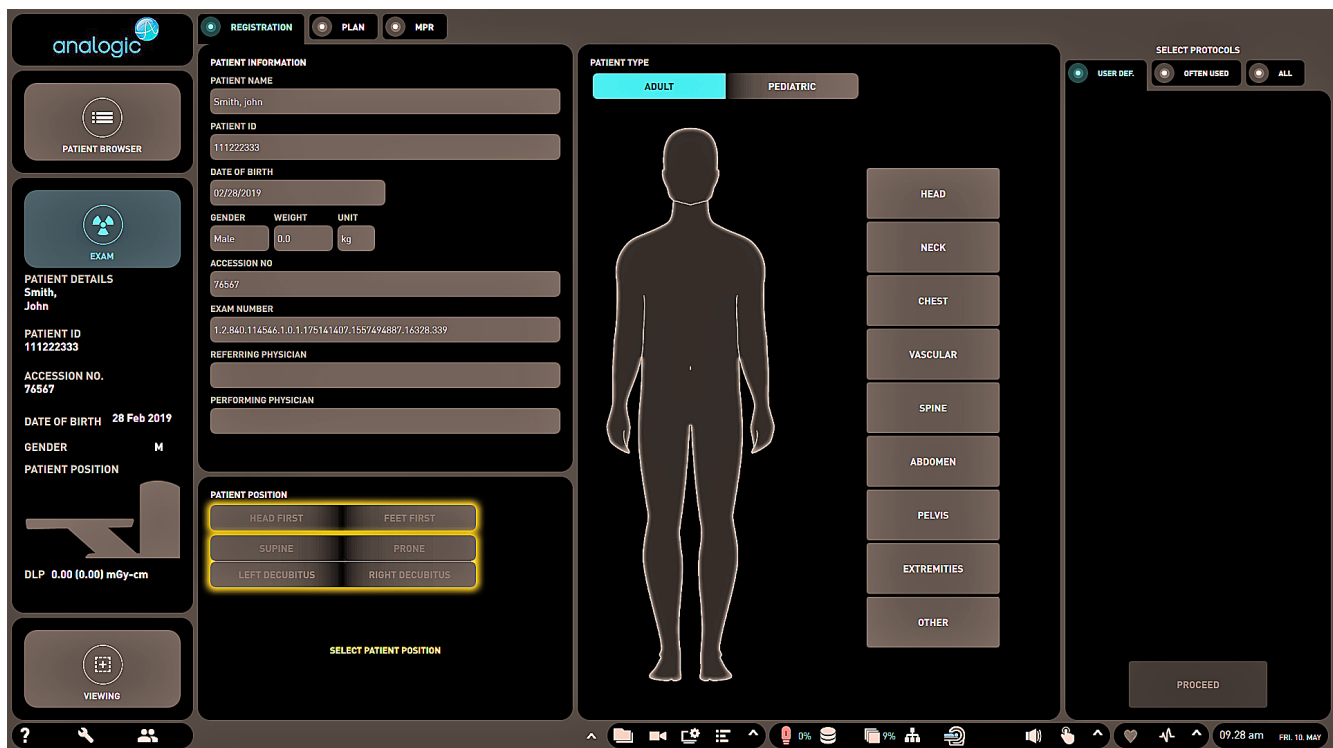

FIGURE 5.19 - Exam Screen
2. Select START EXAM. The Exam screen displays. The screen shows PATIENT INFORMATION and PATIENT DETAILS for this patient (FIGURE 5.19).